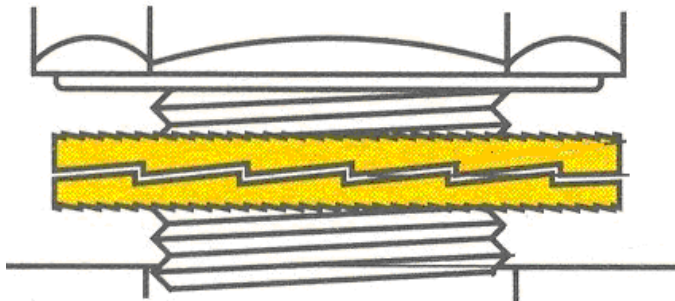

FIGURE 3. NORD-LOCK LOCK WASHER
NOTE: Each Nord_lock washer works in pairs with the “ramped” sides facing each other. No other washers may be used in combination with Nord lock washers. See Figure 3.
NOTE: Each Nord_lock washer works in pairs with the “ramped” sides facing each other. No other washers may be used in combination with Nord lock washers. See **Figure 3.**
4. Inspect the Nord-Lock washers on the inside cam surfaces and outside serrations. Replace washers with excessive wear. Lubricate acceptable washers with a light coating of engine oil or equivalent. **NOTE: Each Nord-Lock washer works in pairs with the "ramped" sides facing each other.** No other washers may be used in combination with Nord Lock washers. See **Figure 3**.
Notes: Hubs use bolts with Nord-Lock washers. Each lock washer works in pairs with the “ramped” sides facing each other. No other washers may be used in combination with Nord lock washers. See **Figure 3**.